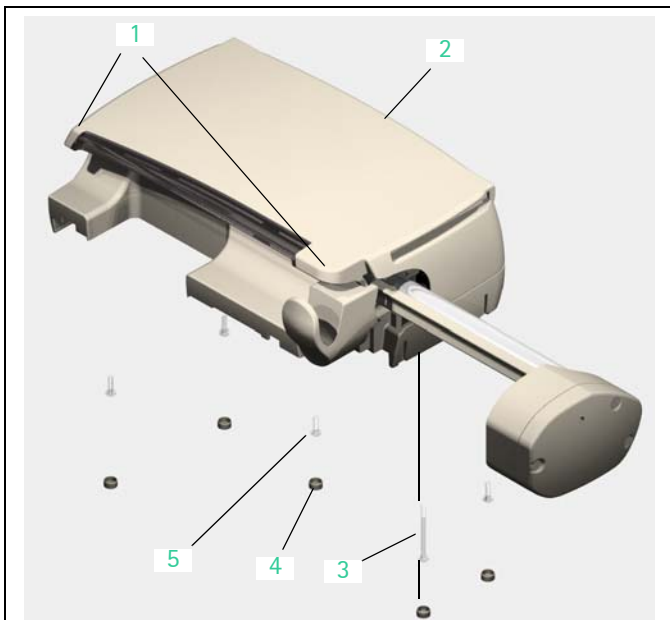

Fig.: 3 - 17
3. Loosen the locking tabs (Fig.: 3 - 17 / Item 1) of the upper part of the housing (Fig.: 3 - 17 / Item 2) carefully by pressing the left and rear outer edge of the housing upwards and remove the housing upper part.
Legend of fig. 3 - 17: